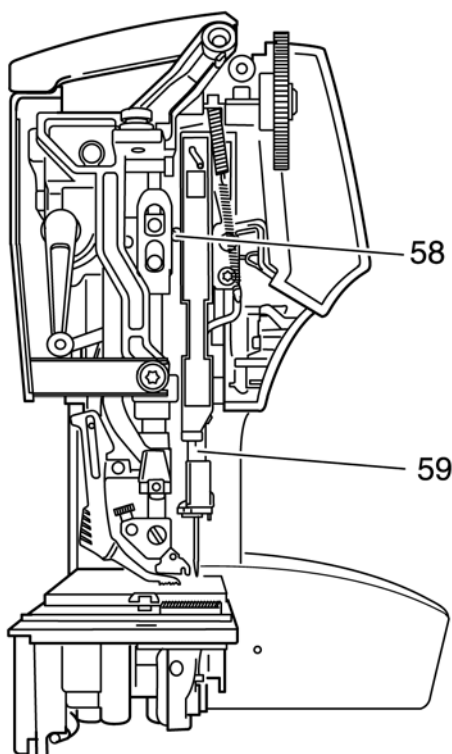

Fig. 40
- Loosen screw 58 just a little (fig. 40).